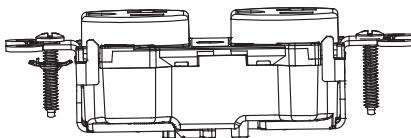

Figure 1. Shim-lock installation onto the mounting screw
2. Fasten the Shim-lock onto the screw, with the tab pointing towards the strap, to an extent that adequate clearance exists for the Shim-lock to rotate freely with the screw [refer to Figure 1]. Note: The device needs to be supported at one end by the sheetrock to obtain proper restraint.